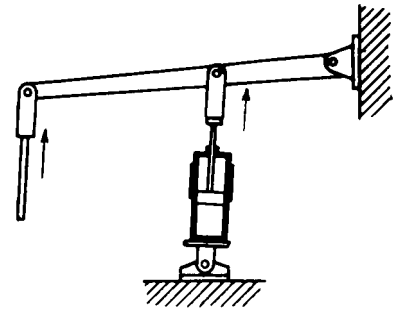

Fig. 3 A cylinder can be used with a third-class lever.
**Fig. 3** A disk mounted eccentrically on the drive shaft displaces liquid in continuous flow. A spring-loaded gland separates the inlet from the outlet except when the disk is at the top of stroke.